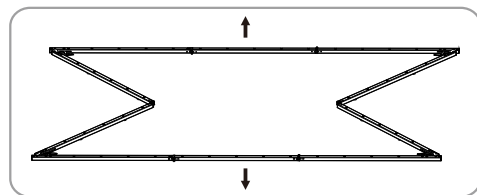

Figure 7
4. Extend vertical sides of the frame and "click" hingers into place (Figure 7).